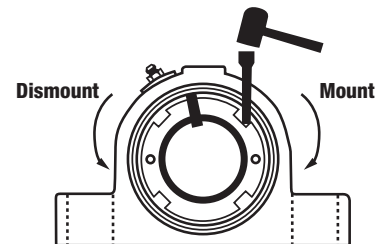

Figure 3
- (Figure 3) Rotate locknut counterclockwise until bearing freely slides from the shaft.